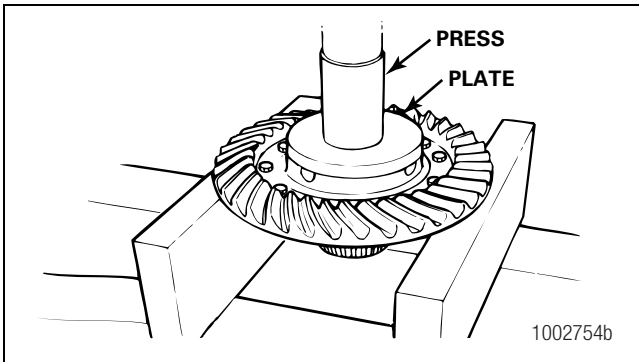

Figure 3.50
4. Place a sleeve or a flat metal plate on top of the case. Press the main differential case from the ring gear. Figure 3.50.